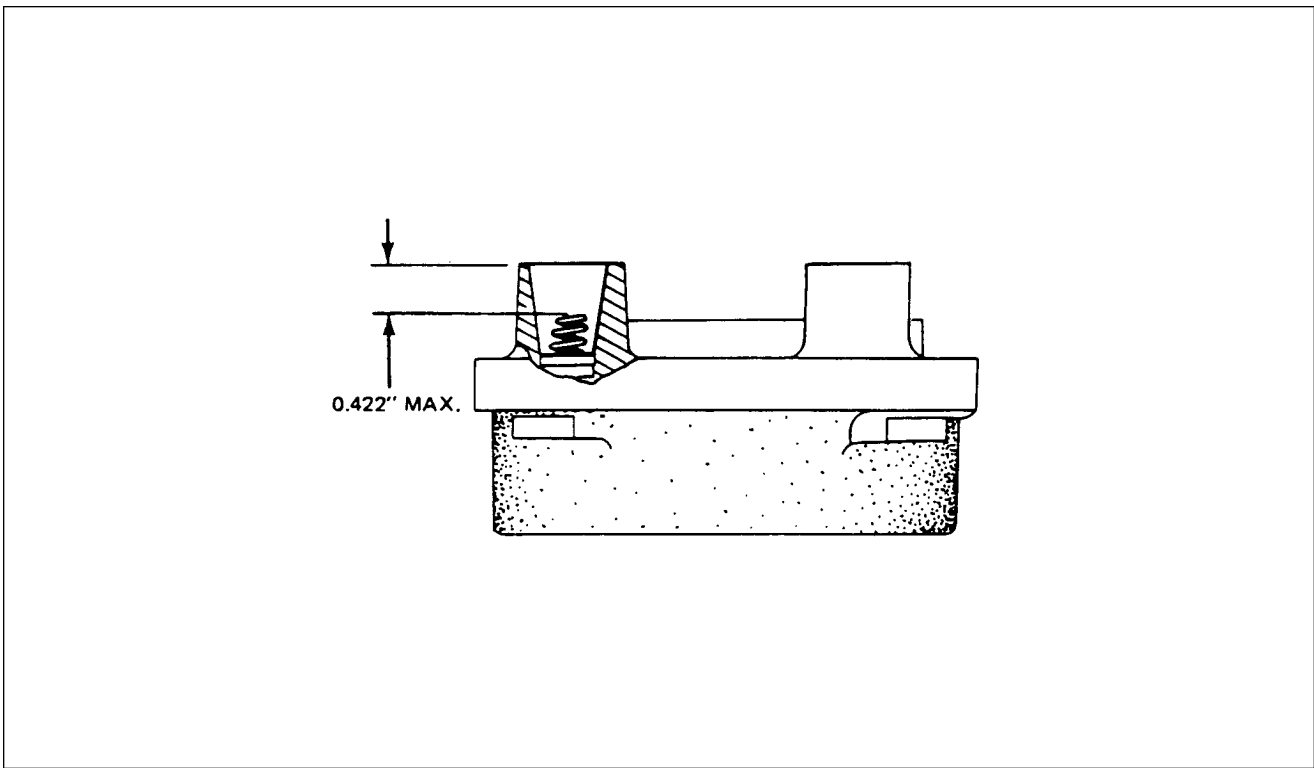

Figure 74-1. Height of Spring in Distributor Block Tower
4. Check height of contact springs (0.422 maximum from top of block tower to spring). (Refer to figure 74-1.)